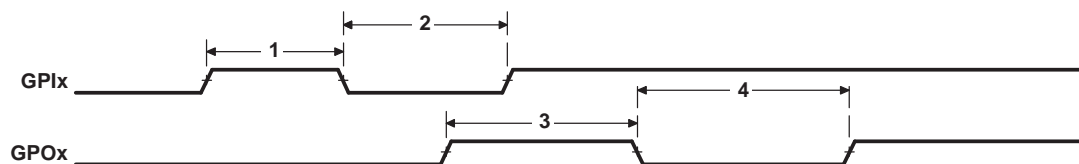

Figure 5-72. GPIO Port Timing
Table 5-87. Timing Requirements for GPIO Inputs^{(1) (2)} (see Figure 5-72)
Table 5-88. Switching Characteristics Over Recommended Operating Conditions for GPIO Outputs⁽¹⁾ (see Figure 5-72)